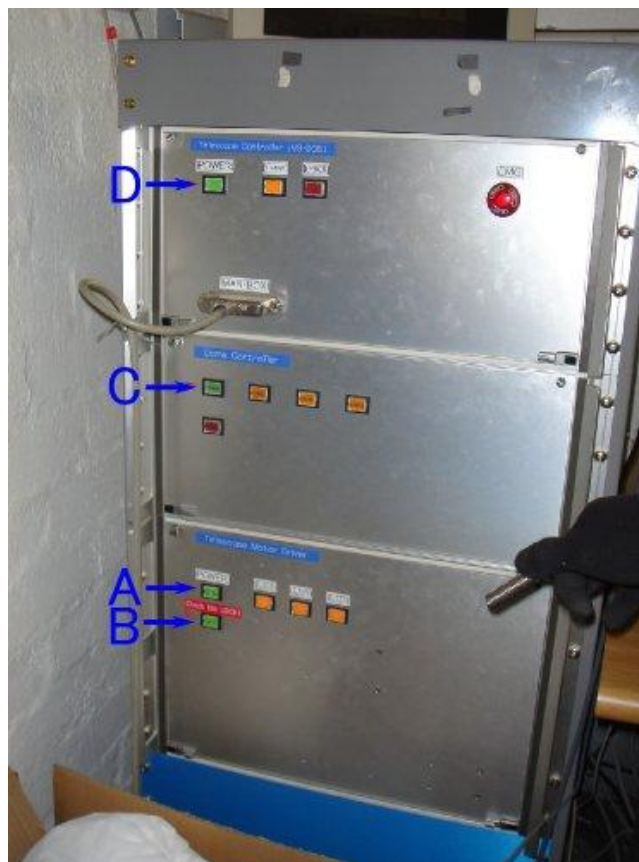

Figure 1: Telescope rack
On the telescope rack **Push button A, Power ON** in Figure 1 on the bottom panel. The three orange LEDs, labelled X, Y, theta, should turn ON and remain steady to indicate the health of the telescope drive.
- Push button C in Figure 1 to turn the dome controller ON.
- Push button D in Figure 1 to start Telescope Control computer, labelled Telescope Controller MS-DOS.